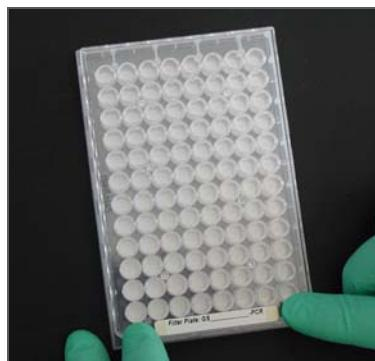

Figure 75 Apply Label to Filter Plate
- ▶ Write the PCR plate barcode number in the space provided on a “Filter Plate: GS _____ -PCR” label. Apply the label to the top surface of the filter plate, adjacent to column 12 (Figure 75).